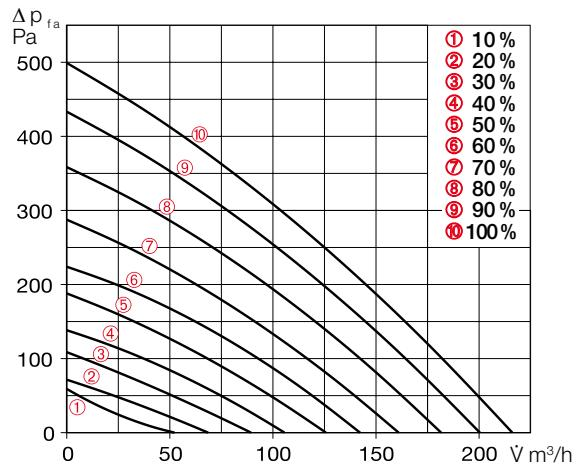
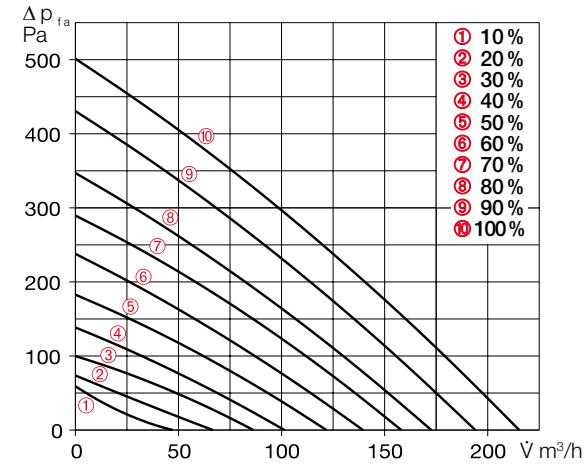

Fig. 24
Fig. 26
5. Enter the determined differential pressures from the extract and exhaust air measurement in the unit characteristic curve for extract air (see Fig. 24 and Fig. 26) according to the fan outputs saved in the ventilation profile (cf. Fig. 28 and Fig. 29).